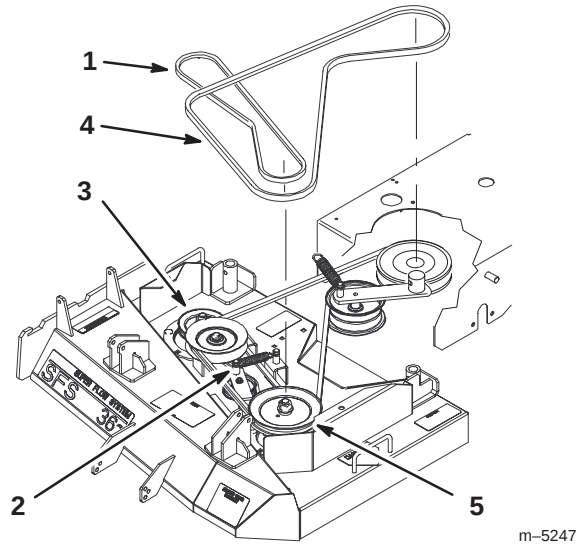

Figure 64
5. Disconnect the idler arm spring to relieve tension on the idler arm and idler pulley, then remove the worn deck belt (Fig. 64).
6. Install the new deck belt around the outward spindle pulley, the idler pulley, and in the lower groove of the double spindle pulley (Fig. 64).
7. Reconnect the idler arm spring (Fig. 64).
8. Adjust deck belt guide an 1/8 in. (3 mm) from belt (Fig. 64).